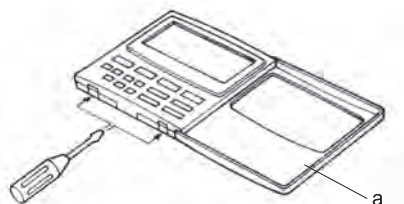

Fig. 2-4
- (1) When you open the decorative cover (Fig. 2-4), you will see 2 gaps under the remote controller. Insert a coin into these gaps and pry off the back case.